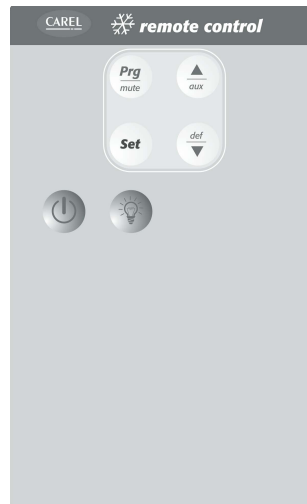

Fig. 5.2.3
- Buttons for remote simulation of the instrument keypad (Figure 5.2.3);